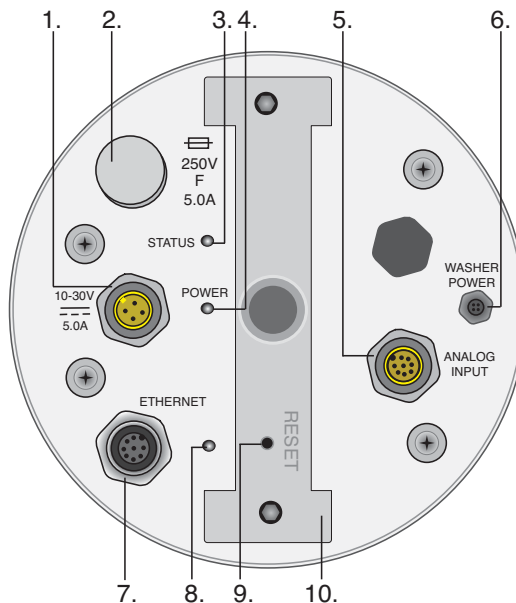

Figure 1-7. The connection panel on the LI-7700.
10. **Connection Panel** – has indicator LEDs, weather-proof cable connections, and an external network reset button (see Figure 1-7).